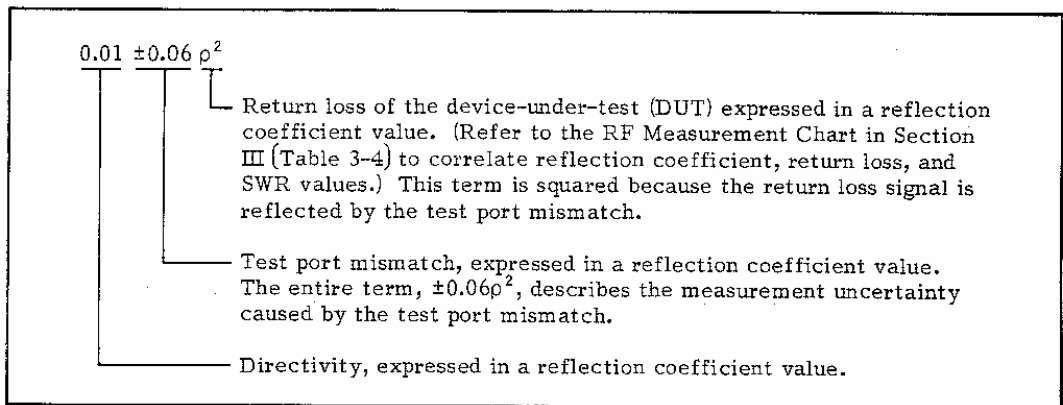

Figure 1-2. Description of the Accuracy Term, As Applied to SWR Autotesters and Bridges
- a. Accuracy. This term defines the accuracy with which an SWR Autotester or bridge can make a reflected signal measurement. Refer to Figure 1-2 for a description of the term.
- (1) When the test port signal is fully reflected, and
- (2) When the test port is perfectly terminated.